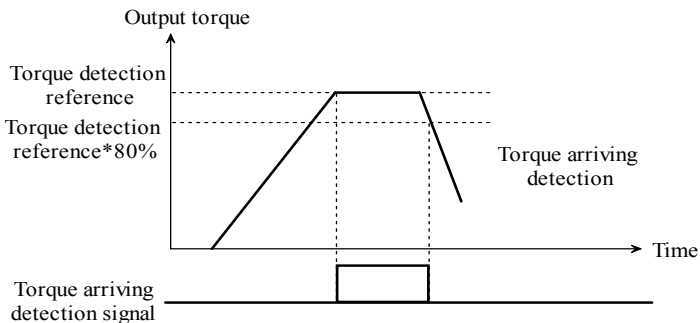

Fig. 5-3-11 Torque arriving
- ◆ If motor torque is equal to or more than the value of torque detection reference, the output of terminal is valid. If the motor torque is less than 80% of reference, the output of terminal is invalid, as shown in Fig. 5-3-11